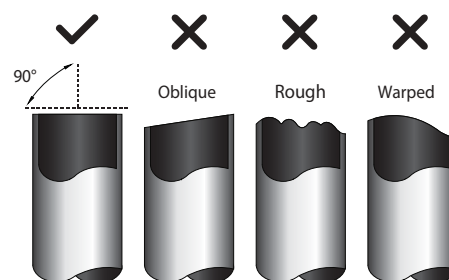

Fig. 7.5
- Make sure that the pipe is cut at a perfect 90° angle. Refer to Fig. 7.5 for examples of bad cuts